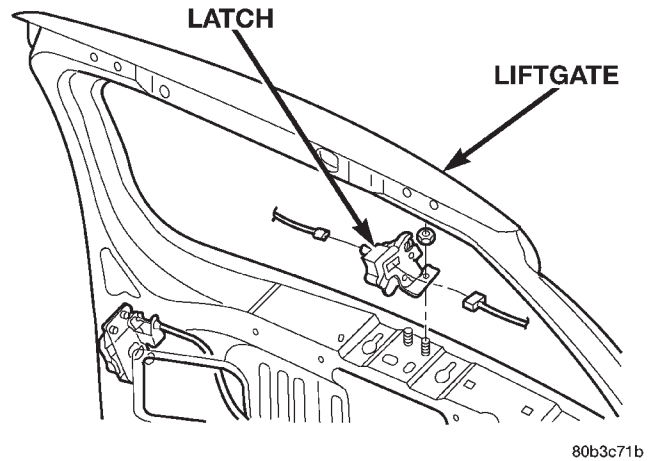

Fig. 78 Flip-up Glass Latch
- (1) Open liftgate flip up glass.
- (2) Open liftgate and remove trim panel (Fig. 78).
- (3) Remove latch.
- (4) Disconnect switch connectors.
- (5) Remove latch from liftgate.